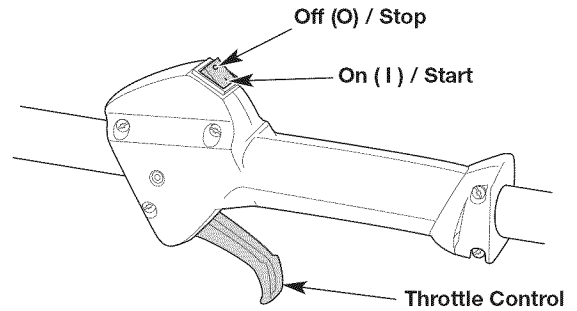
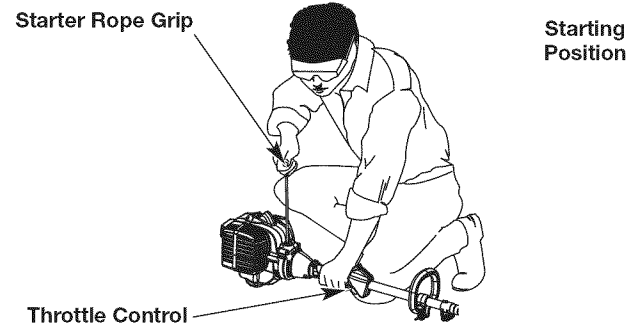

Fig. 7
Fig. 9
WARNING: Avoid accidentally starting the unit. To avoid serious injury, the operator and the unit must be in a stable position when pulling the starter rope (Fig. 9).
NOTE: There is no need to turn the unit on. The On/Off switch is in the ON (I) position at all times (Fig. 7).
5. Crouch in the starting position (Fig. 9).
6. Squeeze the throttle control (Fig. 7) and pull the starter rope with a controlled and steady motion **5 times** (Fig. 9).
2. Press and hold the On/Off switch in the OFF (O) position until the engine comes to a complete stop (Fig. 7).
7. Squeeze and hold the throttle control (Fig. 7). Run the Speed Start™ accessory for 2 seconds.